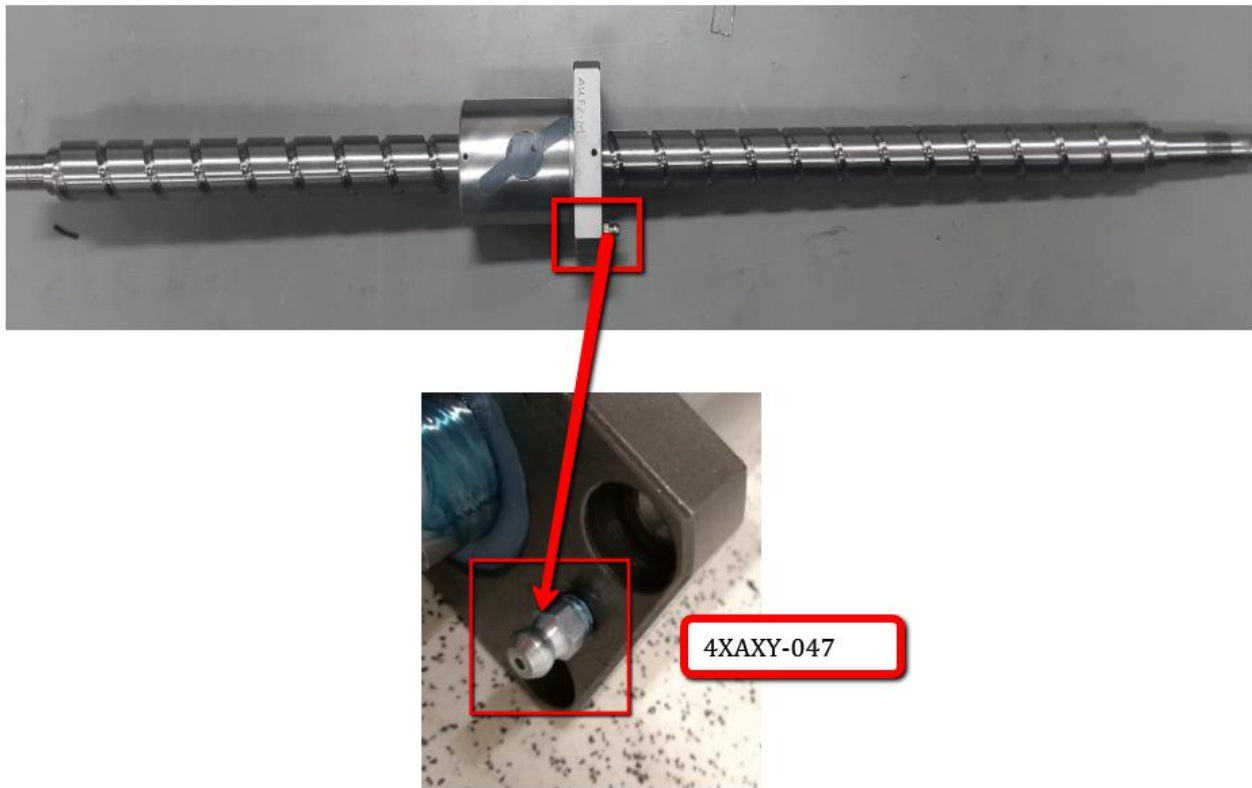

Figure 28 Grease fitting removal
22. By using adjustable wrench, loosen and remove the Grease Fitting, Straight, M6x13.5M (4XAXY-047) as below Figure 28.